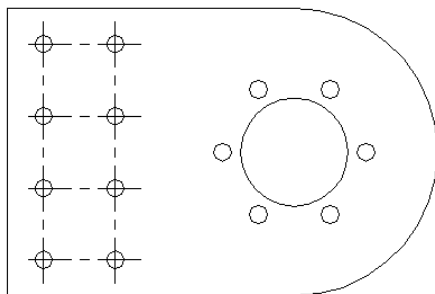

Figure 10-7: The completed mounting bracket.
8. Click Preview. You should see a total of four horizontal lines, as shown in Figure 10-7. Click Accept in the small dialog box that appears. (If you don't see the four lines, click Modify and recheck the settings in the Array dialog box.)
13. Click Preview to preview the array. If the circles look like Figure 10-7, click Accept. Otherwise, click Modify and check your settings. After you're done, the command arrays the holes to fit the centerlines.
19. Click Preview to see the array. It should look like Figure 10-7. If it does, click Accept. Otherwise, click Modify and recheck the settings in the Array dialog box. AutoCAD or AutoCAD LT completes the mounting bracket.
20. Save your drawing. It should look like Figure 10-7.